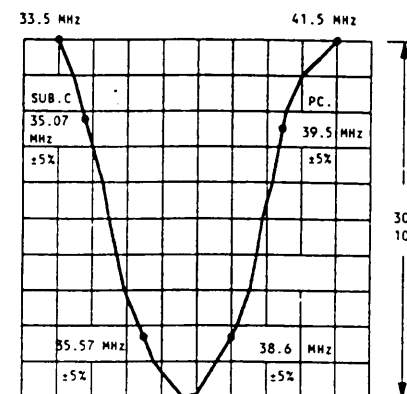

Fig 4.
- 5: Adjust tuner converter coil to obtain the waveform as in fig. 4.